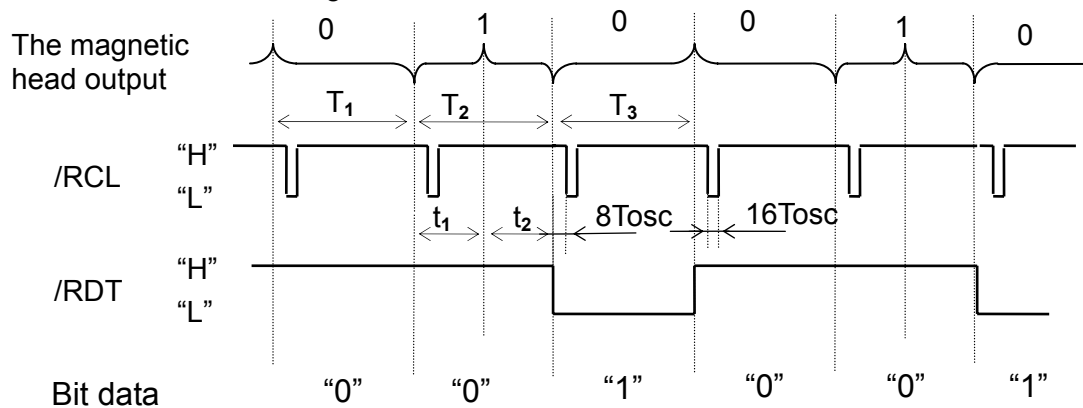

Fig 5.2 Timing sequence (Detail)
- (1) /MCR : The /MCR line will be Low when a magnetic card is running in the card reader and High otherwise.
- (2) /RCL(READ CLOCK) : This is used to sample the data line by it's falling edges. The time relationship of the clock with respect to the order signals is shown in Figure 5.2.
- (3) /RDT(READ DATA) : The moment /RCL change from High to Low ; /RDT is "1" when the /RDT line is Low , and / RDT is "0" when the /RDT line is High. (Negative logic)
- (4) /CLD : The /CLD line will be low when a card is seated in the reader and high otherwise.